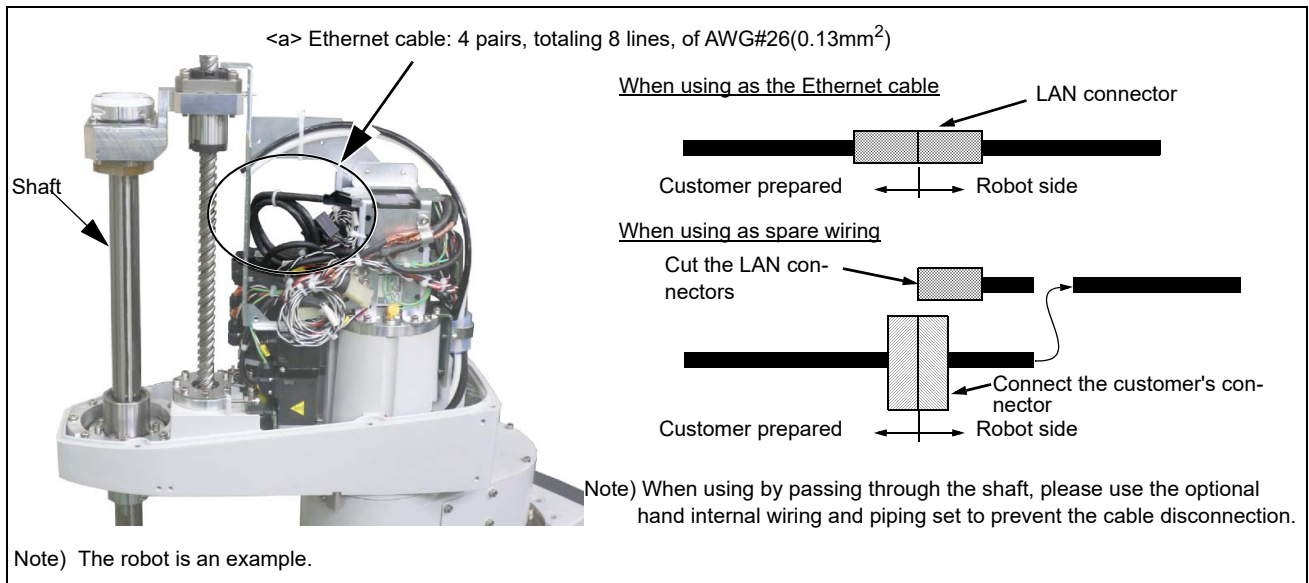

Fig.2-9 : Pulling out the Ethernet cable
- 2) Ethernet cables are located in the positions shown in Fig. 2-9 <a> (coiled and stored).